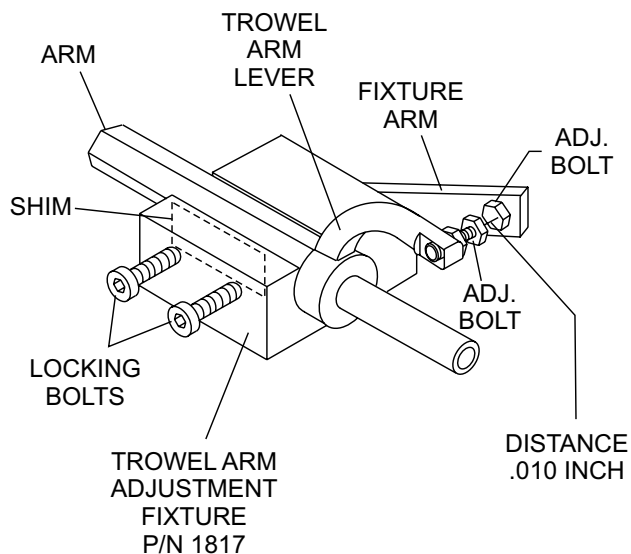

Figure 46. Trowel Arm Adjustment Fixture Components
3. Unscrew the locking bolts on the adjustment tool and place the trowel arm into the fixture channel as shown in Figure 46. A thin shim may be required to cover the blade holes on the trowel arm. Make sure to align the trowel adjustment bolt with the fixture adjustment bolt.